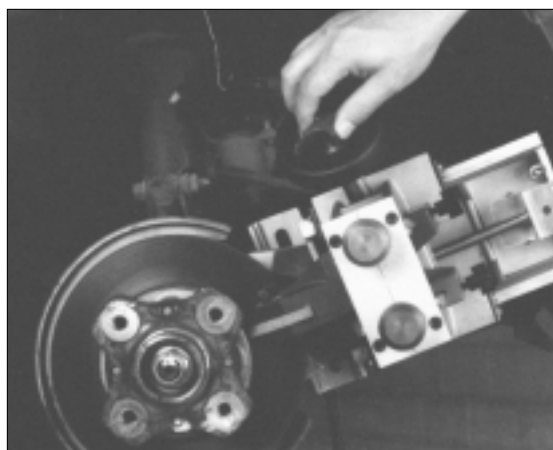

Figure 19
**15.** Tighten the engagement knob in the center of the handwheel, Fig. 19. This will start the cut. When the cutting bits have cleared the outer edge of the rotor, loosen the engagement knob to stop the carriage.